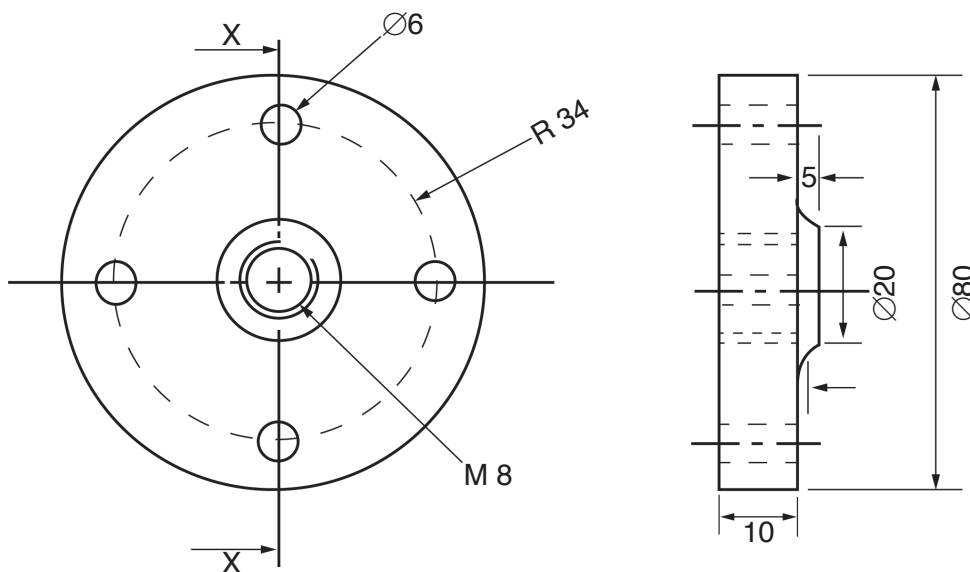

Fig. 1
- 2 Fig. 1 shows two views of a plate in first angle projection.